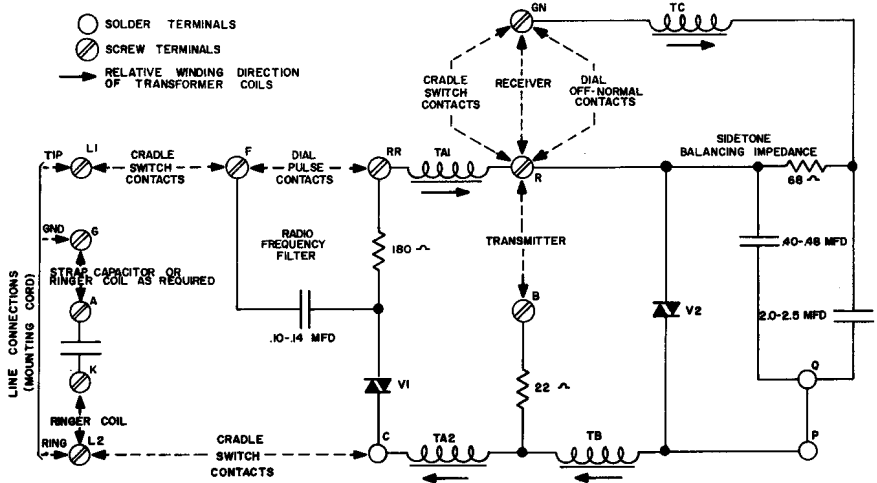
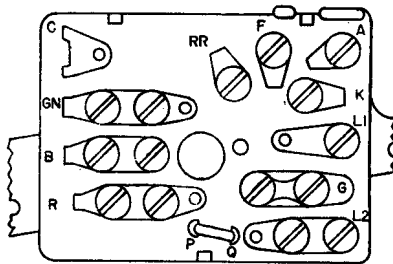

FIGURE 4. CIRCUIT DIAGRAM
FIGURE 5 TERMINAL BOARD LAYOUT
- 6.04 The circuit shown in Figure 4 indicates by dashed lines the typical connections to other components of a complete telephone instrument. The features of the circuit are briefly discussed in the following paragraphs.
- 6.06 The direction of winding of the four coils of the transformer is indicated by arrows in Figure 4. Received speech currents pass via windings TA₁, TB and TA₂, each of which produces an additive voltage in winding TC. The received currents also produce a voltage across the 68Ω resistor that opposes and is almost equal to that produced by the induced voltages in winding TC. There is very little power loss in the resistor and varistor and maximum power in the receiver. The low impedance of the transmitter is matched to the loop by the turns ratio of winding TB to windings TA₁ and TA₂.
7.01 Thorough testing of the network assembly can only be performed with elaborate test equipment. An adequate check on performance, for maintenance purposes, is to compare a suspected unit with a known good unit by substitution. Resistance and capacitance checks can be carried out between many of the terminals, as can be seen from Figure 4. Note that the soldered connection between terminals P and Q can be opened to permit testing of the two network capacitors. Figure 5 shows the layout of the terminal board of the assembly.
TABLE 1: POINT TO POINT TEST VALUES (Fig. 5)